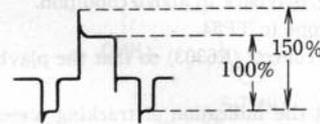

Fig. 28
11. Adjust R339 so that the sync portion becomes zero beat as shown in Fig. 28.
4. Adjust R341 so that the output waveform becomes as shown in Fig. 28.
6. Adjust R343 so that the output waveform becomes as shown in Fig. 28.